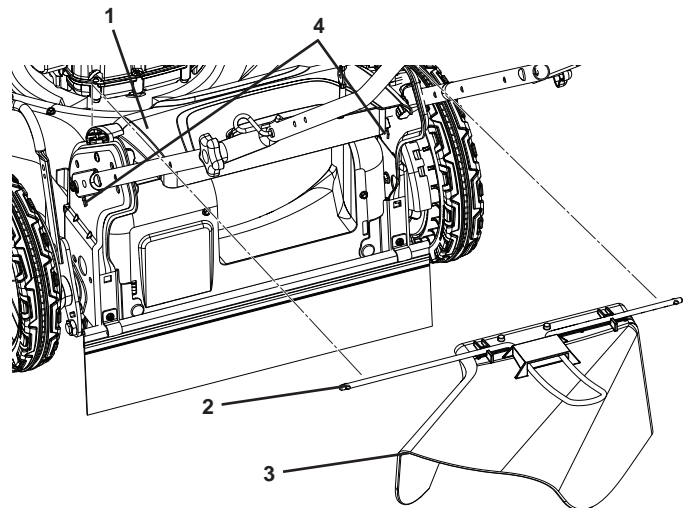

Figure 11
### REAR DISCHARGING (See Fig. 11)
1. Lift the rear door and install the clipping deflector (available accessory) legs into holes of handle brackets as shown (Figure 11).